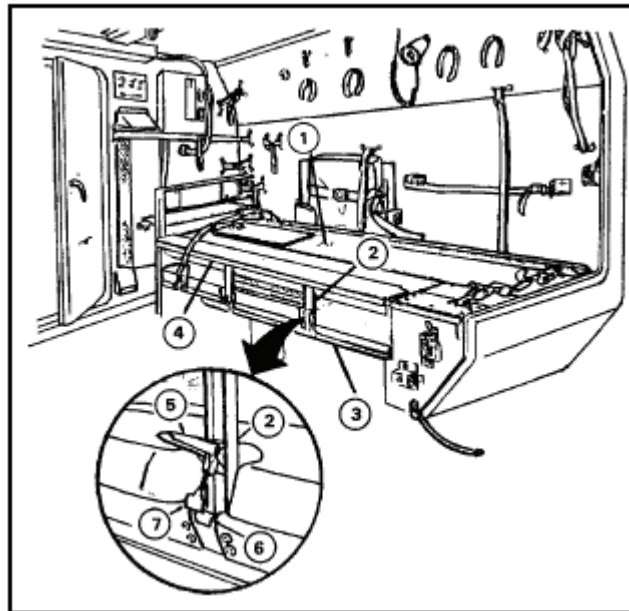

Figure 3-40. Prepare the M996
- a. Prepare the M996 for ambulatory casualties. Refer to Figures 3-40 and 3-41.